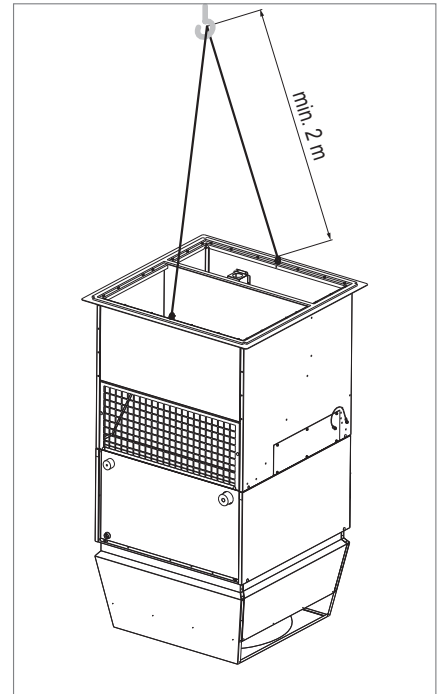

Fig. 28: Minimum length of the lifting ropes
- Heed the minimum length of the lifting ropes (see Fig. 28).